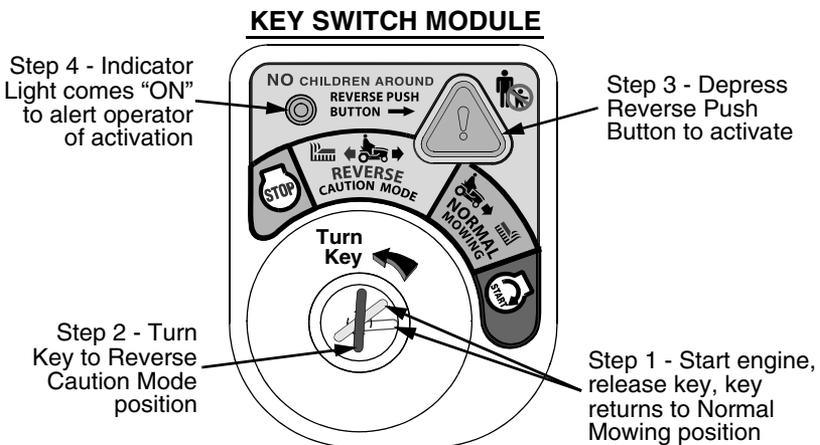

Figure 12
(Yellow) position of the key switch module. Refer to Figure 12.
3. Depress the **REVERSE PUSH BUTTON** (Orange/Triangular Button) at the top/right corner of the key switch module. The red indicator light at the top/left corner of the key switch module will be "ON" while activated. Refer to Figure 12.